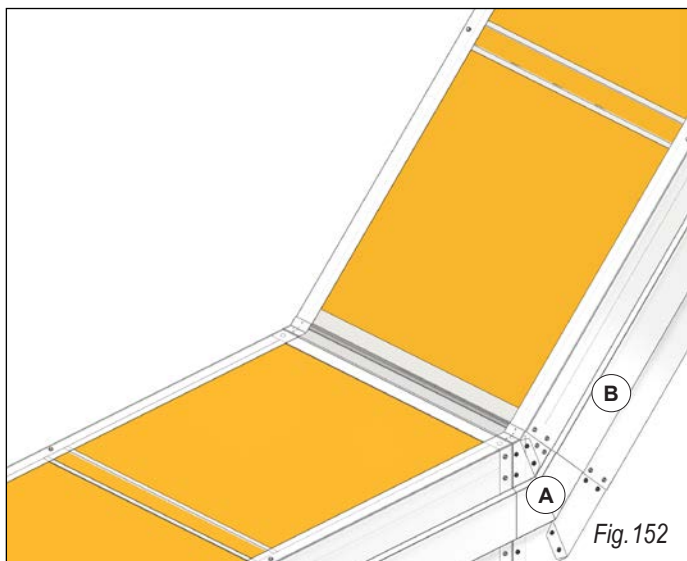
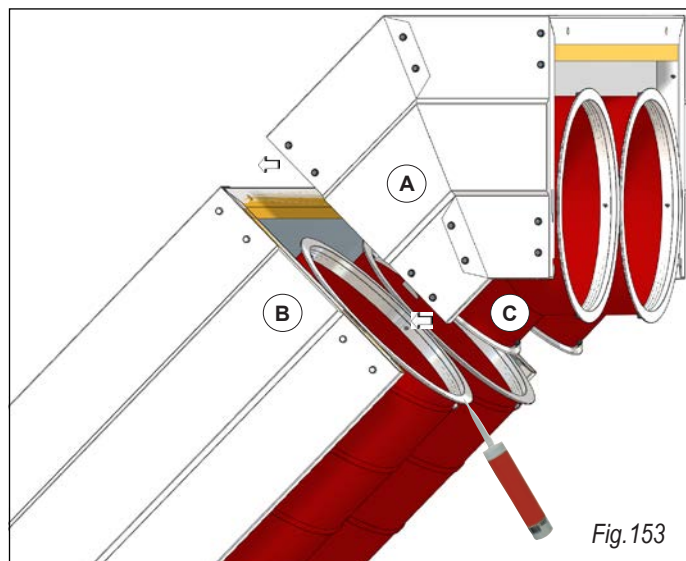

Fig. 152
Fig. 153
Connect the kit (A) to the module (B) through the male tooth and the slot (fig.152). Put some silicone on both sides in the coupling flanges of the bend. Connect the second part of the kit for height variation (A) to the radiant module (B) through the male tooth and the slot (fig.153).